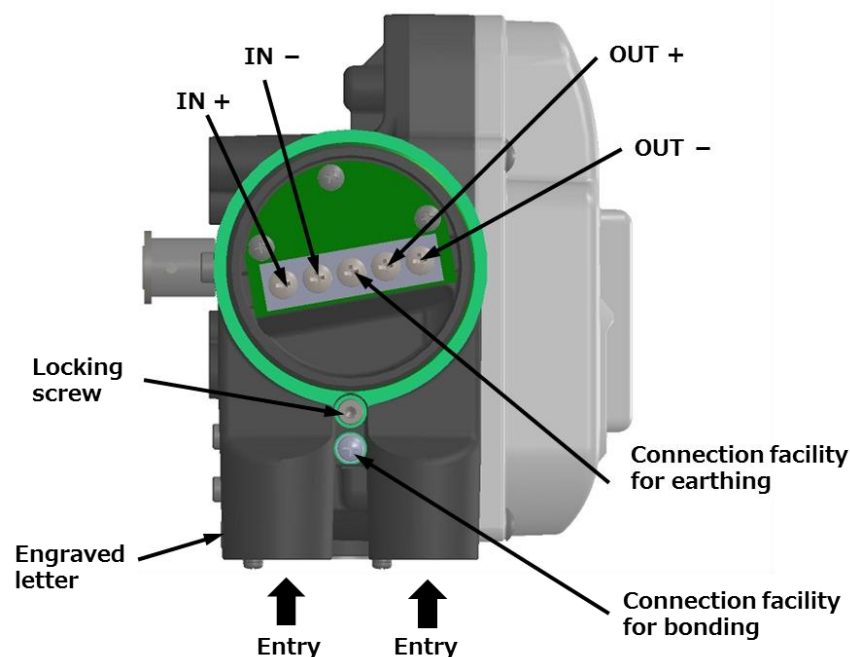

Figure1.4a Entries and Connection Facilities
The figure1.4a below shows the layout of the entries for electrical connections and terminals.
5. As illustrated in figure 1.4a, two connection facilities for earthing and bonding conductors are available. The two connection facilities are equipotential. Make wiring connections according to local electrical codes which apply to the application.